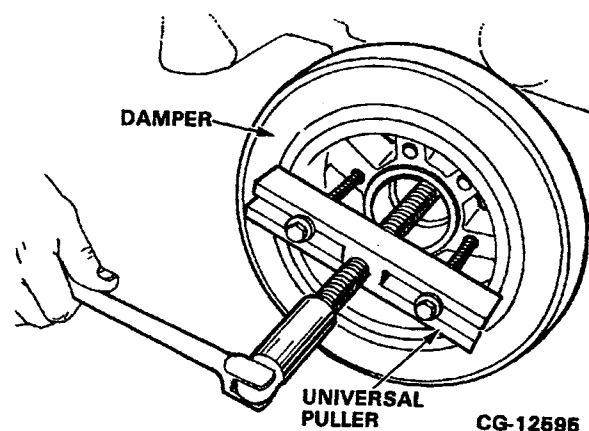

Figure 7.40. Remove Damper and Pulley Assembly
- b. Install a universal puller using 3/8 in. bolts long enough to hold the puller in place. Turn the forcing screw and remove the damper and pulley assembly. Refer to Figure 7.40.